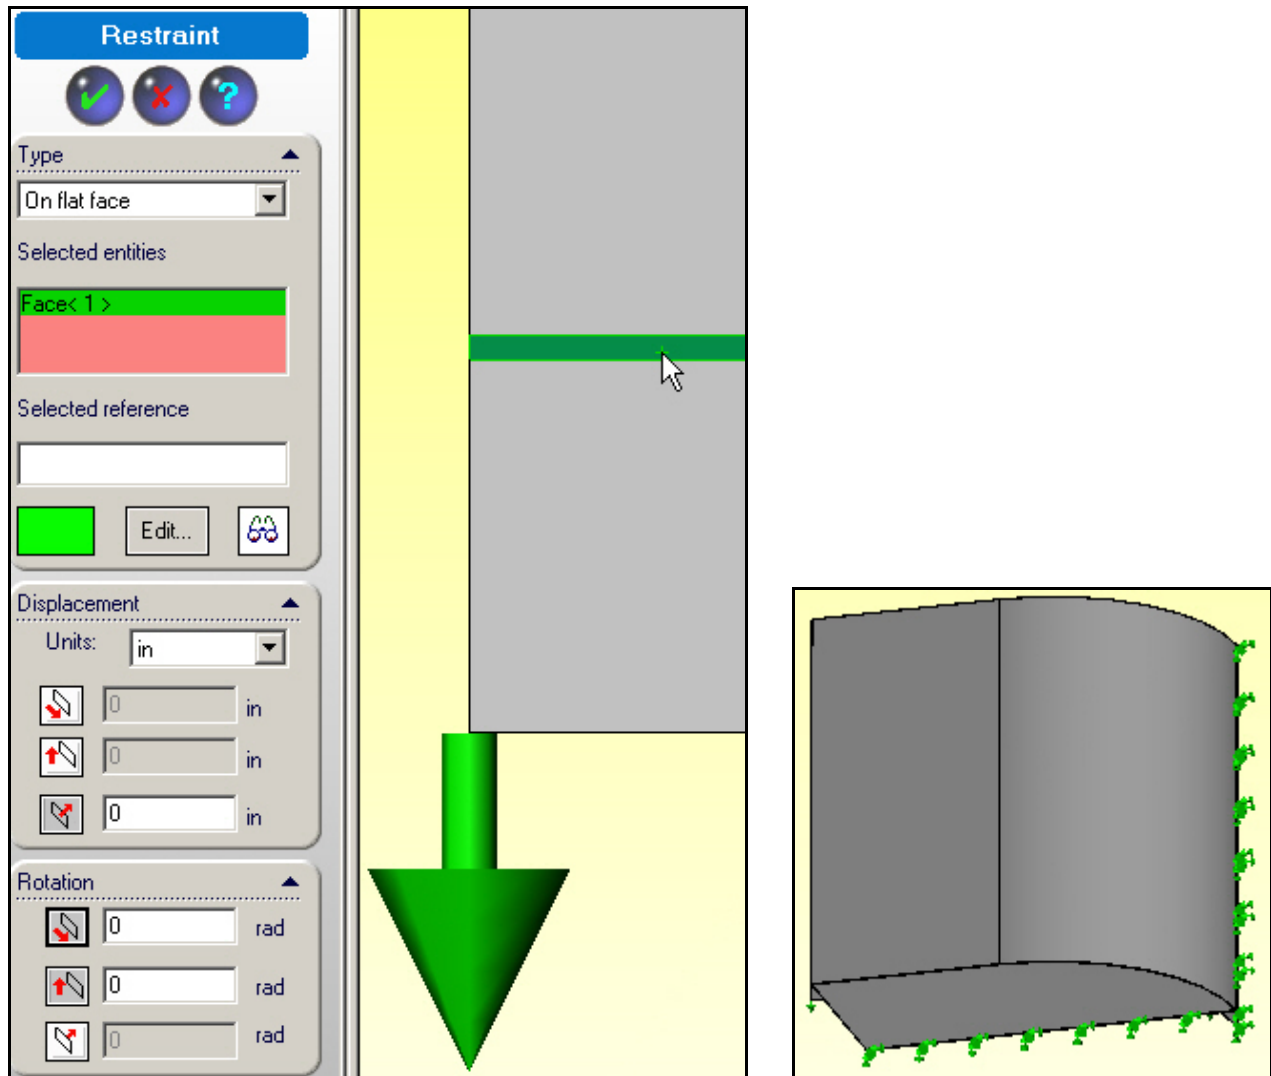

Figure 16 Invoking front plane shell symmetry
1. Activate the **Restraint panel** (as in Figure 14) and the **On flat face Type**. Zoom in on and pick the flat front plane surface. Set the symmetry condition of no displacement perpendicular to it. That prevents RBM to the back and RBM rotation about a vertical axis (so 1 RBM remains). Since a shell model will be invoked it, is also necessary to restrain the rotation vector tangent to that plane (i.e. its 2 components in that plane are identically zero). These steps are seen in the next **Restraint panel** of Figure 16. Note that we also get a visual check of the previous vertical support of the bottom-most face, and a graphical preview of the new displacement and rotation restraints.